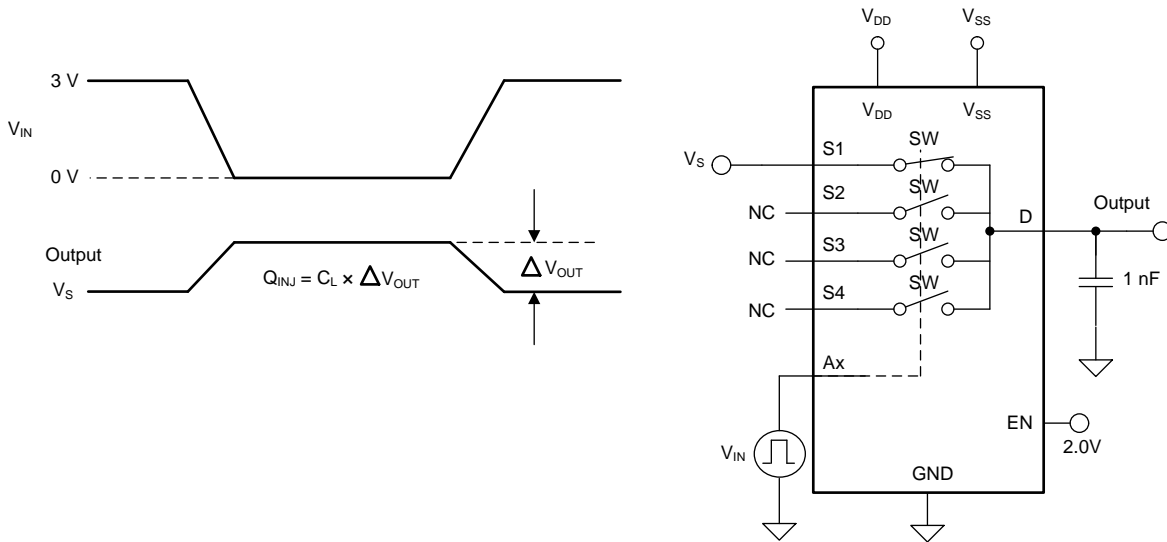

图 23. Charge-Injection Measurement Setup
The TMUX6104 have a simple transmission-gate topology. Any mismatch in capacitance between the NMOS and PMOS transistors results in a charge injected into the drain or source during the falling or rising edge of the gate signal. The amount of charge injected into the source or drain of the device is known as charge injection, and is denoted by the symbol  $Q_{INJ}$ . 图 23 shows the setup used to measure charge injection from source (Sx) to drain (D).